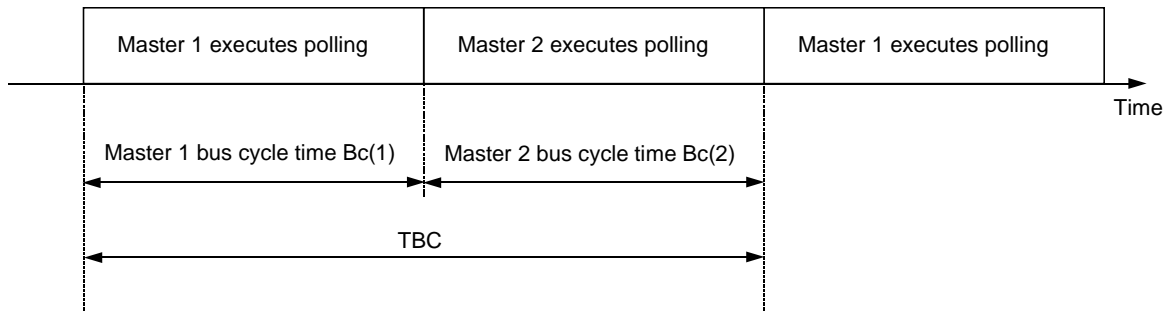

Fig. 6.2 The Bus Cycle time when multiple masters are connected
(2) Bus cycle time when there are multiple master stations
Following is an explanation of the bus cycle time when multiple masters are connected to the same network. The following diagram (Fig. 6.2) shows when 2 masters are connected to the same network. Bc(1) and Bc(2) in the following diagram (Fig. 6.2) are the master 1 and master 2 bus cycle times respectively, and their total time is calculated using the formula presented in Section 6.1.